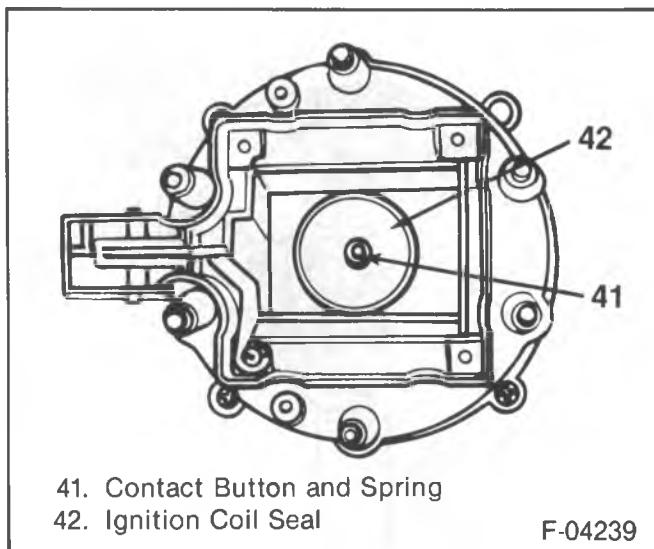

Figure 15—Cap and Seal
3. Seal and the button in the cap (figure 15). Replace the button if the end that contacts the distributor rotor is pitted or burned.
- Spring, button (41) and seal (42) into the cap (figure 15).